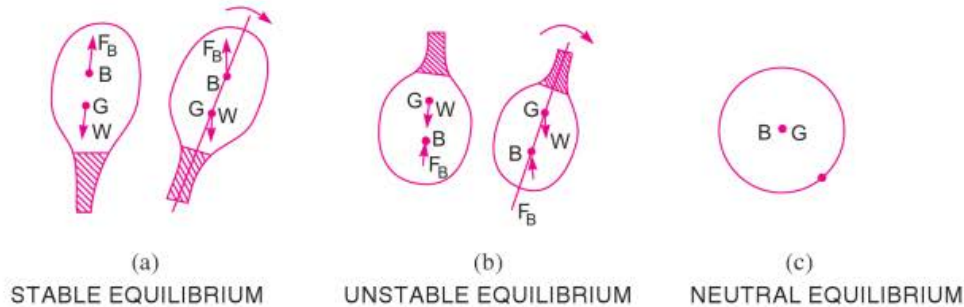

Fig. 4.12 Stabilities of sub-merged bodies.
4.7.1 Stability of a Sub-merged Body. The position of centre of gravity and centre of buoyancy in case of a completely sub-merged body are fixed. Consider a balloon, which is completely sub-merged in air. Let the lower portion of the balloon contains heavier material, so that its centre of gravity is lower than its centre of buoyancy as shown in Fig. 4.12 (a). Let the weight of the balloon is W . The weight W is acting through G , vertically in the downward direction, while the buoyant force F_B is acting vertically up, through B . For the equilibrium of the balloon $W = F_B$. If the balloon is given an angular displacement in the clockwise direction as shown in Fig. 4.12 (a), then W and F_B constitute a couple acting in the anti-clockwise direction and brings the balloon in the original position. Thus the balloon in the position, shown by Fig. 4.12 (a) is in stable equilibrium.
(b) **Unstable Equilibrium.** If $W = F_B$, but the centre of buoyancy (B) is below centre of gravity (G), the body is in unstable equilibrium as shown in Fig. 4.12 (b). A slight displacement to the body, in the clockwise direction, gives the couple due to W and F_B also in the clockwise direction. Thus the body does not return to its original position and hence the body is in unstable equilibrium.
(c) **Neutral Equilibrium.** If $F_B = W$ and B and G are at the same point, as shown in Fig. 4.12 (c), the body is said to be in neutral equilibrium.